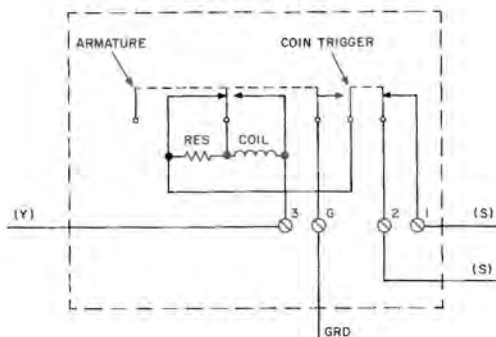

Fig. 27—Single-Coil, Slow-Release Coin Relay
5.32 The single-coil, slow-release, coin-relay switch assembly, in addition to ground and dial-shortening contacts, has a 3-spring break-make combination which functions to short-circuit either a resistor or the relay coil as shown in Fig. 27 and as covered in 5.41.
5.41 The slow-release feature is obtained by short-circuiting the coin-relay winding near the end of the operate stroke (Fig. 27). During the holding period the 1000-ohm resistor is substituted for the short-circuited relay coil. This protects the coin battery resistance lamps in the central office from a current surge and protects the coin-relay ground contacts from excessive arcing when they open while coin battery is still applied to the line. To prevent reoperation of the relay, the ground contacts are opened on the release stroke before the short circuit is removed from the relay coil.